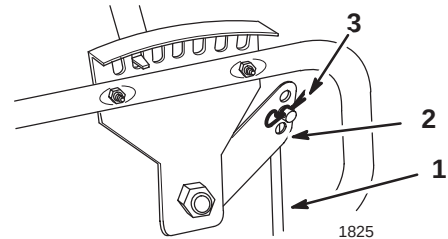

Figure 6
8. Secure the upper end of the height control rod to the height adjustment handle with a hairpin cotter (Fig. 6).